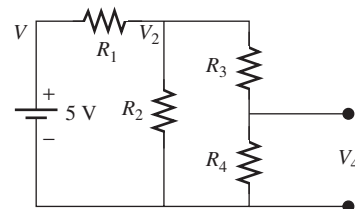

FIGURE P14.5 Resistor network.
- 14.5** (H)* A resistor network is shown in Figure P14.5, $R_1 = 5 \, \text{k}\Omega \pm 10\%$, $R_2 = 10 \, \text{k}\Omega \pm 20\%$, $R_3 = 2 \, \text{k}\Omega \pm 10\%$, and $R_4 = 8 \, \text{k}\Omega \pm 5\%$. Calculate the maximum and minimum value of V_4 .